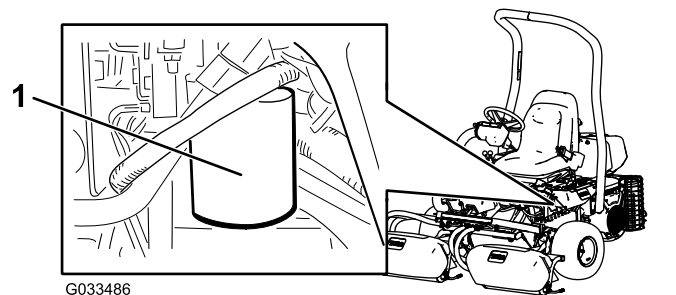

Figure 51
2. Remove the bolts that secure the cover plate of the lift cylinder that you are adjusting from the support brackets of the chassis (Figure 51).
1. Clean the area around the left filter mounting area (Figure 51). Place a drain pan under the filter and remove the filter.